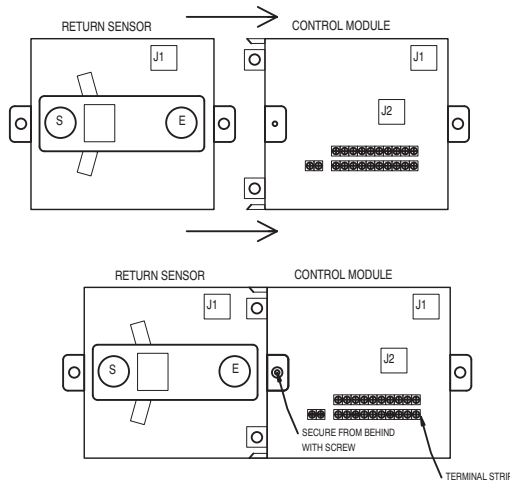

Fig. 11 – Sensor Installation
6. Slide feet of control module into receptacle on the return sensor housing and secure from the backside using one screw removed in Step 4. The J1 RJ-45 connector on sensor should be nearest the control module. Knockout holes should align. (See Fig. 11.)